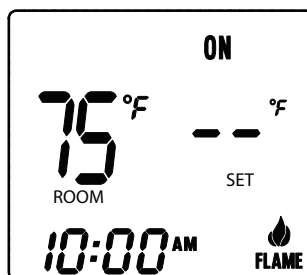

Fig. 5 Manual ON
Step 1: Press the MODE button one time to manually turn ON the appliance (Fig. 5).